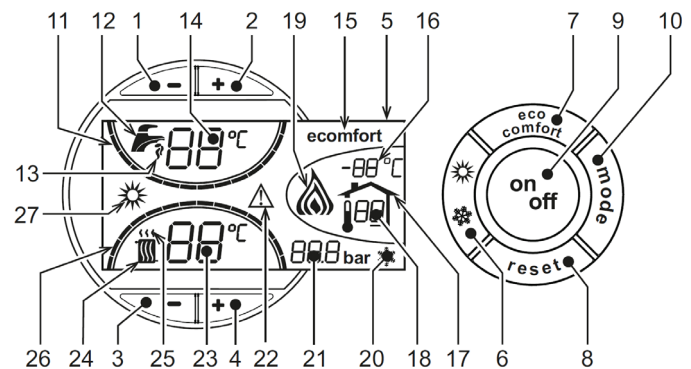
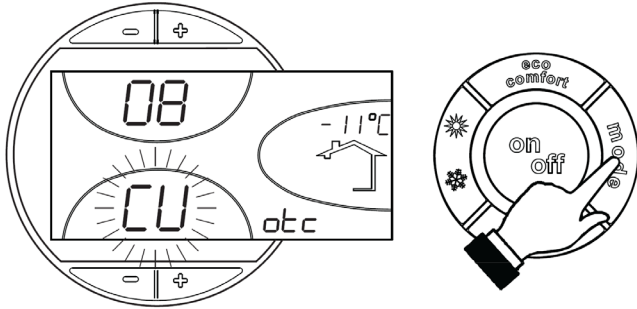
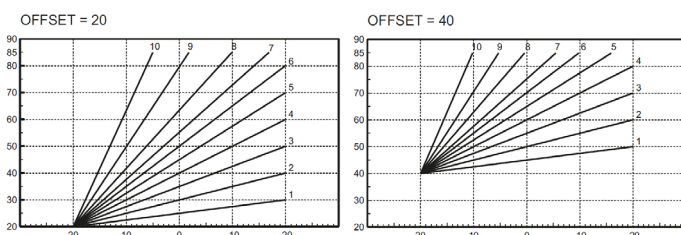

fig.1 - Control panel
fig.13 - Compensation curve
fig.16 - Example of compensation parallel curve offset
A heating demand (generated by the Room Thermostat or Remote Timer Control) is indicated by flashing of the hot air above the radiator (details 24 and 25 - fig.1).
The heating graduation marks (detail 26 - fig.1) light up as the heating sensor temperature reaches the set value.
A DHW demand (generated by drawing domestic hot water) is indicated by flashing of the hot water under the tap (details 12 and 13 - fig.1).
The DHW graduation marks (detail 11 - fig.1) light up as the DHW sensor temperature reaches the set value.
Comfort mode (to have DHW service the Comfort must be activated) The need to reset the internal temperature of the boiler (Comfort mode) is signaled by the blinking of the respective symbol (15 and 13 - fig.1)
The operation of the accumulator (heating and maintenance in temperature) can be deactivated by the user. In such a case, there is no sanitary hot water supply. When the accumulator is activated (default option), the COMFORT symbol appears on the display (15 - fig.1); if it is deactivated, the ECO symbol (15-fig.1) is displayed. To deactivate the heater and set the ECO mode, press the eco / comfort key (7- fig.1). To return to COMFORT mode, press the eco / comfort key again (7- fig.1)
Press the on/off button (detail 9 - fig.1) for 1 second.
The antifreeze system remains activated. To relight the boiler, press the on/off button (detail 9 - fig.1) again for 1 second.
Press the summer/winter button (detail 6 - fig.1) for 1 second.
The display activates the Summer symbol (detail 27 - fig.1): the boiler will only deliver domestic hot water. The antifreeze system remains activated.
To deactivate the Summer mode, press the summer/winter button (part. 6 - fig.1) again for 1 second.
Use the heating buttons (details 3 and 4 - fig.1) to adjust the temperature from a min. of 30°C to a max. of 80°C.
Use the DHW buttons -/+ (details 1 and 2 - fig.1) to adjust the temperature from a min. of 10°C to a max. of 65°C.
When the optional external probe is installed the control panel display (detail 5 - fig.1) shows the actual outside temperature read by the probe. The boiler control system operates with "Sliding Temperature". In this mode, the temperature of the heating system is adjusted according the outside weather conditions, in order to ensure high comfort and energy saving throughout the year. In particular, as the outside temperature increases, the system delivery temperature is decreased according to a specific "compensation curve".
-/+ (details 3 and 4 - **fig.1**) becomes the maximum system delivery temperature. It is advisable to set a maximum value to allow system adjustment throughout its useful operating range.
Press the mode button (detail 10 - **fig.1**) once to display the actual compensation curve (**fig.13**), which can be modified with the DHW buttons (details 1 and 2 - **fig.1**).
Press the heating buttons (details 3 and 4 - **fig.1**) to access parallel curve offset (**fig.16**), modifiable with the DHW buttons (details 1 and 2 - **fig.1**).
Press the mode button (detail 10 - **fig.1**) again to exit parallel curve adjustment mode.
Also, the control panel display (detail 5 - **fig.1**) shows the actual room temperature detected by the Remote Timer Control.
Eco/Comfort selection	On disabling DHW from the Remote Timer Control menu, the boiler selects the Economy mode. In this condition, the button 7 - fig.1 on the boiler panel is disabled On enabling DHW from the Remote Timer Control menu, the boiler selects the Comfort mode. In this condition it is possible select one of the two modes with the button 7 - fig.1 on the boiler panel.